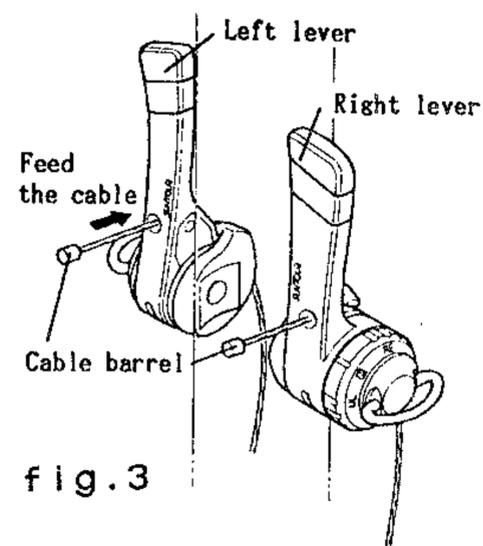

fig.3
3. Feed the cables as shown in figure 3, making sure that the cable barrels are fully seated in the cable barrel ports.
3. You can select either the indexed or the conventional shifting mode (fig. 3 & 4). To change the shifting mode, loosen the "D" ring mounting bolt no more than two turns, and turn the selector ring 90 degrees clockwise or counterclockwise until the appropriate arrow on the selector ring lines up with the red mark on the washer beneath it. Most people will prefer the Index (AccuShift) mode.